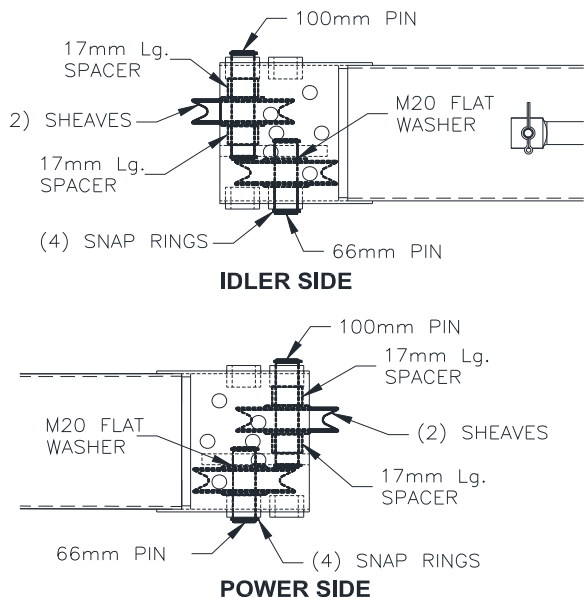

Fig 11 – Asymmetric Sheave Assembly
- 21) Disassemble sheave assemblies from each end. Assemble the cable sheaves, spacers, and pins as shown in **Fig 11** below as if viewing from underneath the lift. A flat washer should be placed between sheave and offset plate. **Note: The Sheave in the narrow section of the Power Side Overhead Beam should be installed after routing the sync cables.**